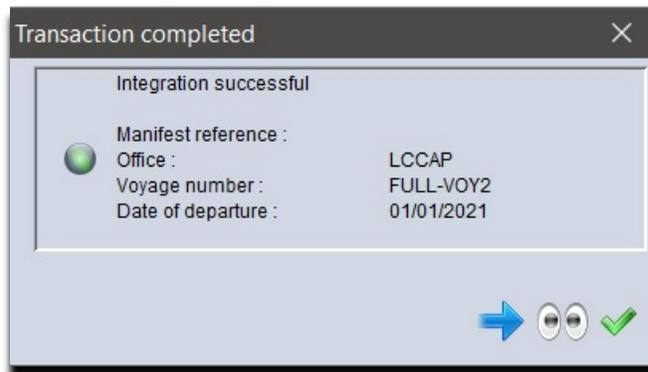

Figure 79: Successful integration message
Step 3. Click on the  icon to “save” and “store” the waybill(s). The system will display a message indicating “Integration Successful”. It will also display the manifest reference information as seen in figure 79. The user may select the  icon to continue uploading other XML files or select  to close the message.